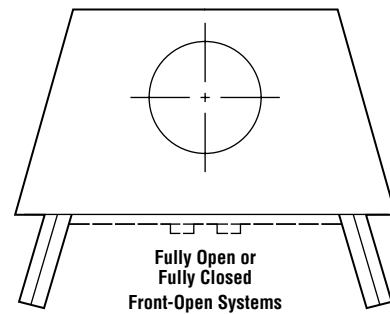

Figure 4
**CAUTION: THE FRONT-OPEN FIREPLACE OR APPLIANCE SHOULD ONLY BE OPERATED WITH THE GLASS DOORS FULLY OPEN OR FULLY CLOSED (SEE FIGURE 4).**